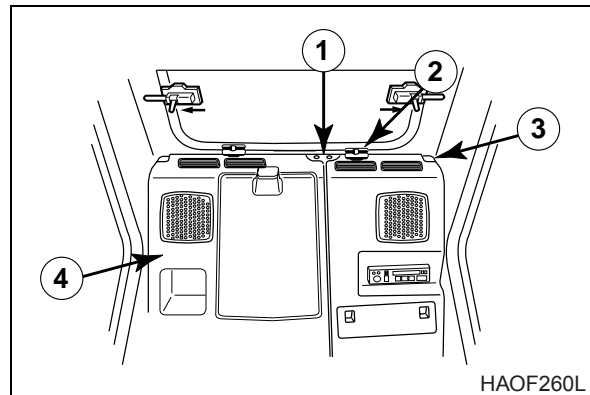

Figure 3
13. Remove two rubber tops (2, Figure 3) used in storing the front lower glass. Remove bolts (1) from the rear left and right dash covers. Lift left side cover (3) slightly and disconnect speaker wire, stereo wire and antenna wire connector. Remove left cover (3).
14. Lift right side cover (4, Figure 3) and disconnect speaker wire. Remove right side cover.
9. Connect speaker wire to right side cover (4, Figure 3).
10. Connect speaker wire, stereo wire and antenna wire connector to left side cover (3).
11. Install bolts (1) to hold rear left and right dash covers (3 and 4) in place.
12. Install two rubber stops (2, Figure 3) used in storing the front lower glass.